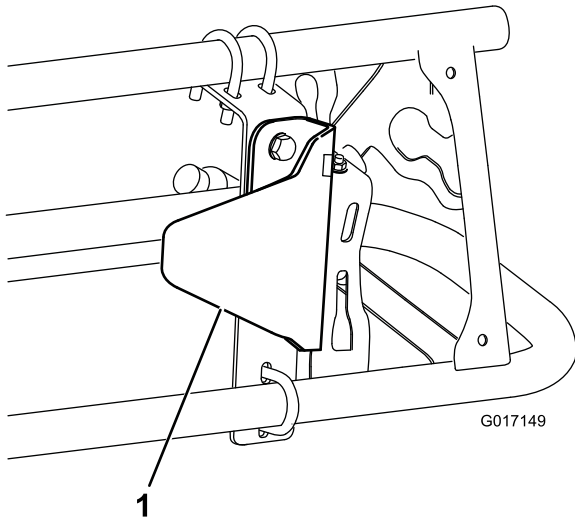

Figure 7
2. Install the sensor guard bracket onto the mounting bracket with 2 bolts (5/16 x 3/4 inch) and 2 flange nuts (5/16 inch) as shown in Figure 7.